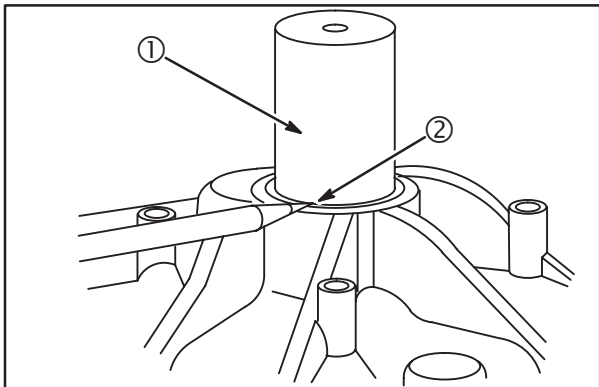

Fig. 6
2. Insert Bushing Driver #19450 (1) into bearing from oil seal side, Fig. 6.
3. Place a reference mark (2) on driver to indicate proper depth when installing new bearing.
Insert Bushing Driver #19349 into bearing from oil seal side. Place a reference mark on driver to indicate proper depth of bushing when installing new bearing, as shown, Fig. 6.